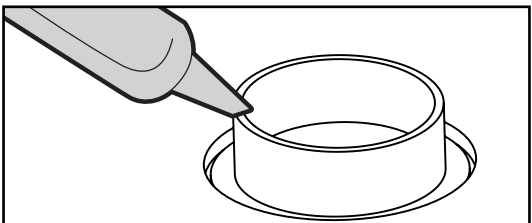

FIGURE 3. Apply construction adhesive to all feet.
- Apply construction adhesive to all feet (and shims if needed) (Fig 3 & 4).